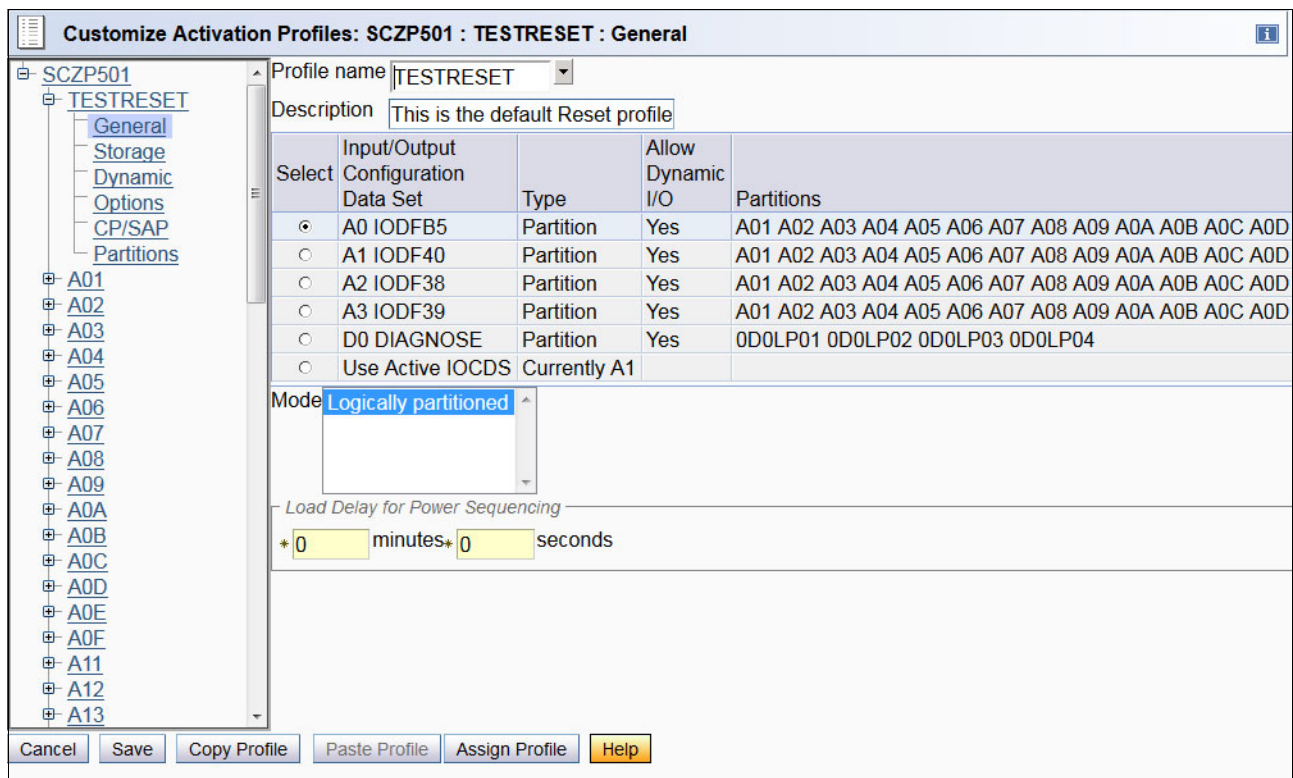

Figure 5-131 HMC - Reset and Image profile list
11. Note the list of LPARs that were retrieved and built based on the LPARs that were defined in the selected IOCDS. Click **Save** (Figure 5-131).